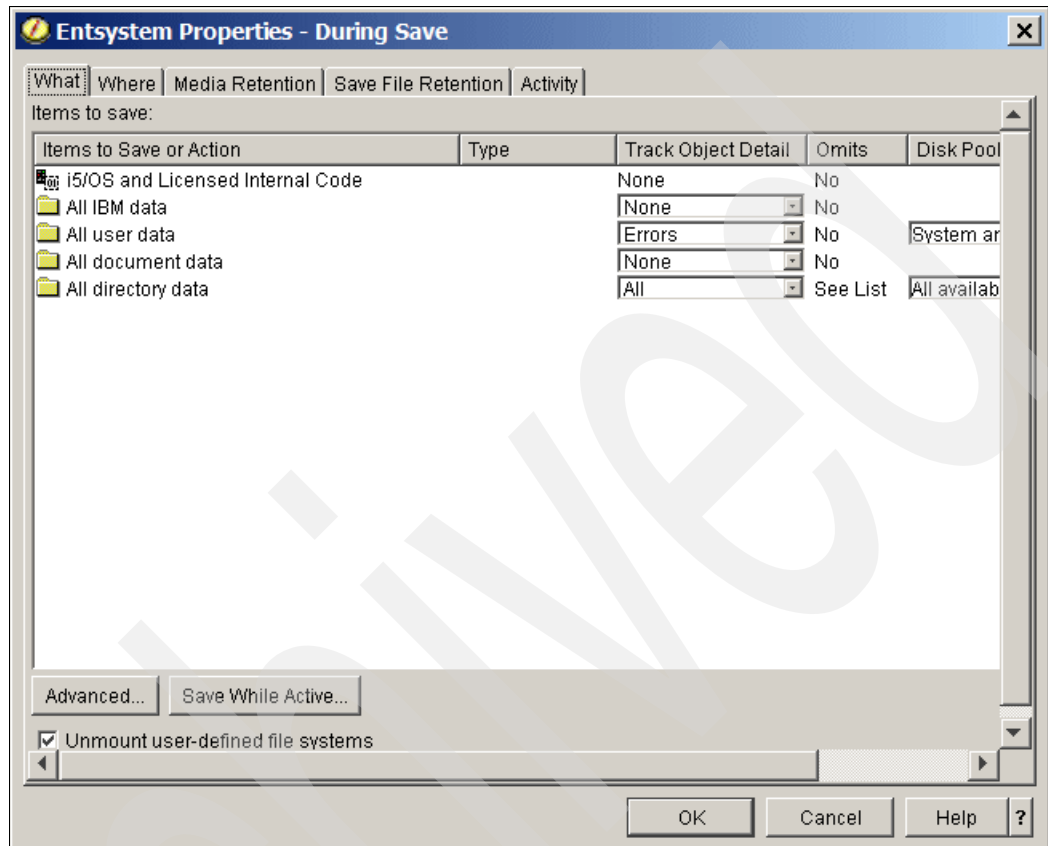

Figure 6-48 Select parts of i5/OS to save
- In the window *New Policy Based on *System*, click the button **During**. This displays the panel *Backup policy properties - During save* where you can select which parts of the i5/OS are to be saved. In our example, we leave all parts listed by default to be saved, as shown in Figure 6-48. After making the selection, click **OK**.